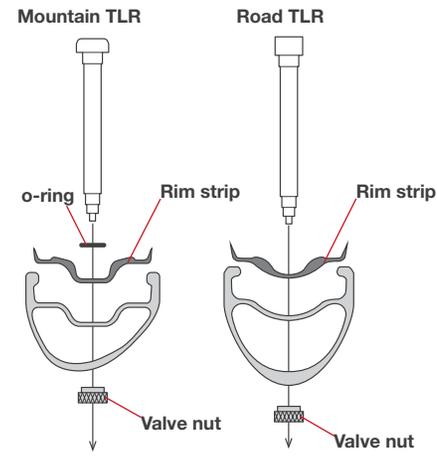

Figure 10. The U shape of the rim strip should face towards the center of the rim.
2. Align the rim valve hole and the valve hole of the rim strip. The U shape of the rim strip should face toward the center of the rim and offset rim strips should match the offset in the rim (Figure 10).
3. Place the tubeless ready valve through the rim strip's valve hole and then through the rim. On mountain rims, make sure that the rubber o-ring is on the valve before dropping it into rim (Figure 10).